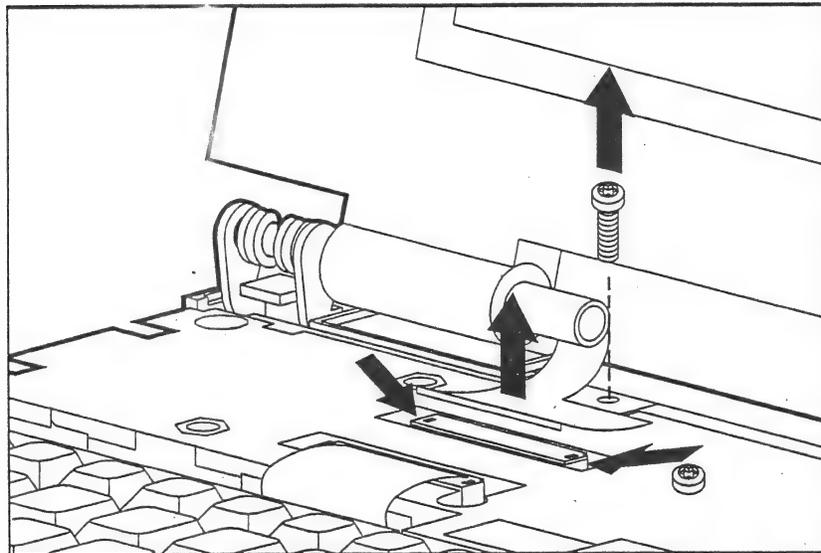

Figure 2-10. Removing the Cable Screw and Unlocking the LIF Connectors
2. Using a Torx T-8, remove the cable screw securing the display cable and ground wire (Figure 2-10).
3. Using the case utility tool, carefully lift up on the LIF connector to release the cable; then disconnect the display cable from the system module (Figure 2-10).